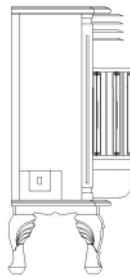

Figure 12-2 On/Off Switch
2. Set the Switch on OFF location. (See Figure 12-2)
If you didn't receive or mis-place your remote transmitter, you can press the emergency button by a pitch rod to operate remote automatically on or off (see fig 12-2)